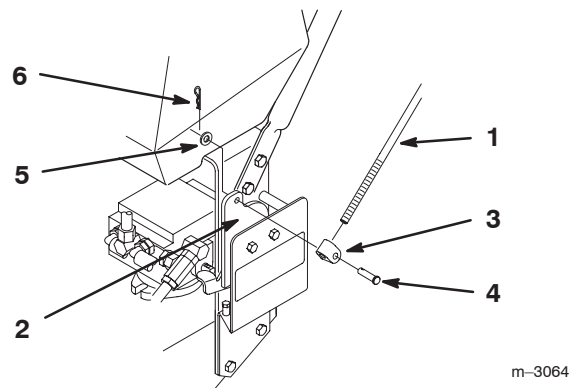

Figure 4
1. Slide clevis pin through rod fitting and mounting hole in control bracket (from outside). Secure with washer and hairpin cotter (Figure 4).
4. Push rod full forward until bearing is against control bracket stop. Thread rod in or out of fitting on control bracket until rod aligns with holes in upper control bars (Figure 4).
4. Push rod full forward until bearing is against control bracket stop. Loosen wing nut and thread turnbuckle in or out until rod aligns with holes in upper control bars (Figure 4).